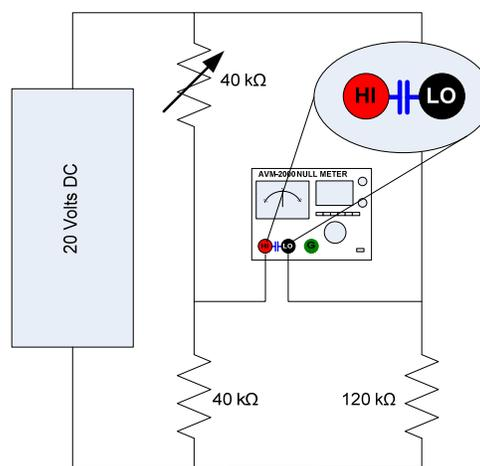

Figure 2
The addition of input capacitance at the null meter terminals provides significant reduction (filtering) of the line-frequency interfering signal. This is shown in Figure 2 as a small blue capacitor between the null meter input terminals. Note: TEGAM provides such a 2 μ F Filter Block with each AVM-2000 for this purpose. If the recommended connections shown in this application note can not reduce the noise due to the ambient fields and the source to a tolerable level, then use of the capacitor block can further attenuate the effects of AC pickup.
NOTE: A filter block is mentioned during parts of this section but is not shown on the diagrams that follow. In most cases the filter will not be required but if in the presence of AC interference, you find a filter is required, connect the supplied 2 μ F filter block across the AVM-2000 input terminals as shown in Figure 2.
- When using high-impedance dividers, use a filter block at the null meter (as shown in Figure 2), to reduce the impact of inductively or capacitively induced line-frequency voltages.